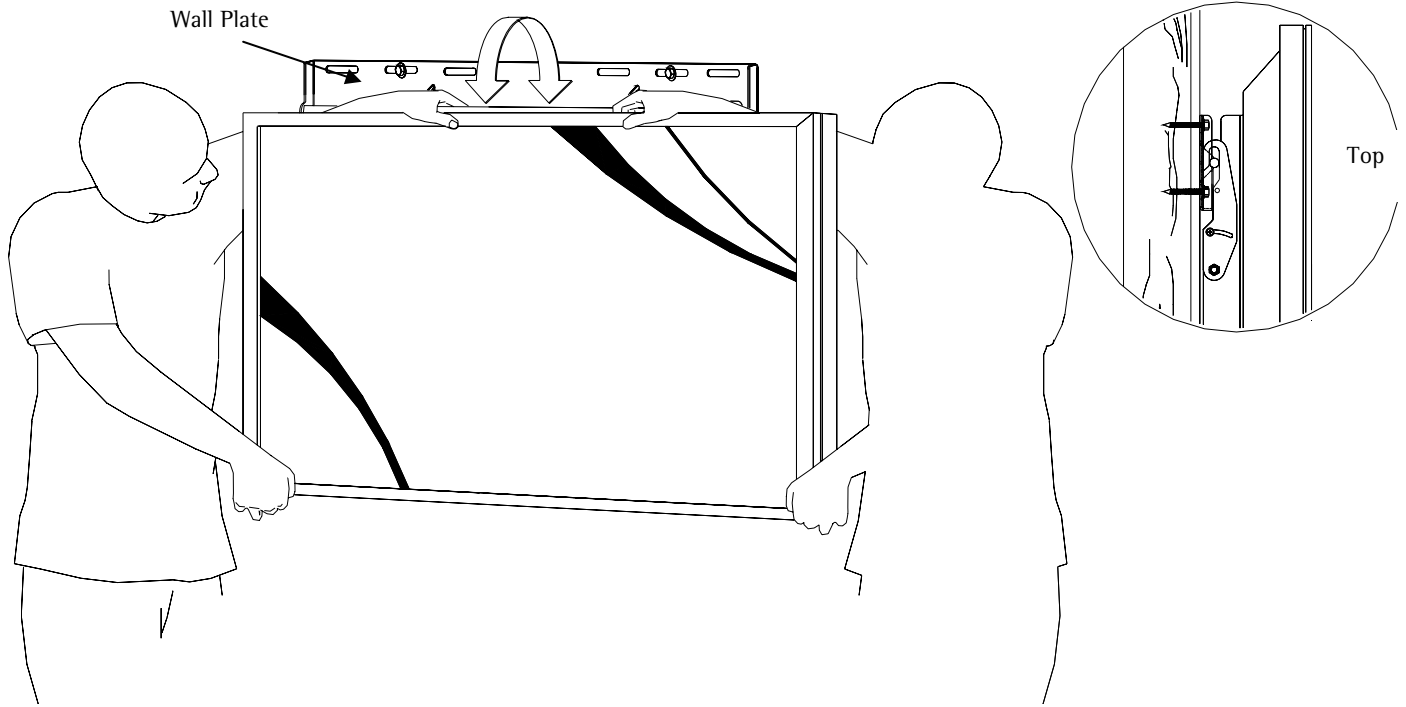

Figure 15
1. Raise the flat panel with the LEFT and RIGHT mounting brackets secured to the flat panel and insert the top hooks from each bracket to the rod from the wall plates (Figure 15).